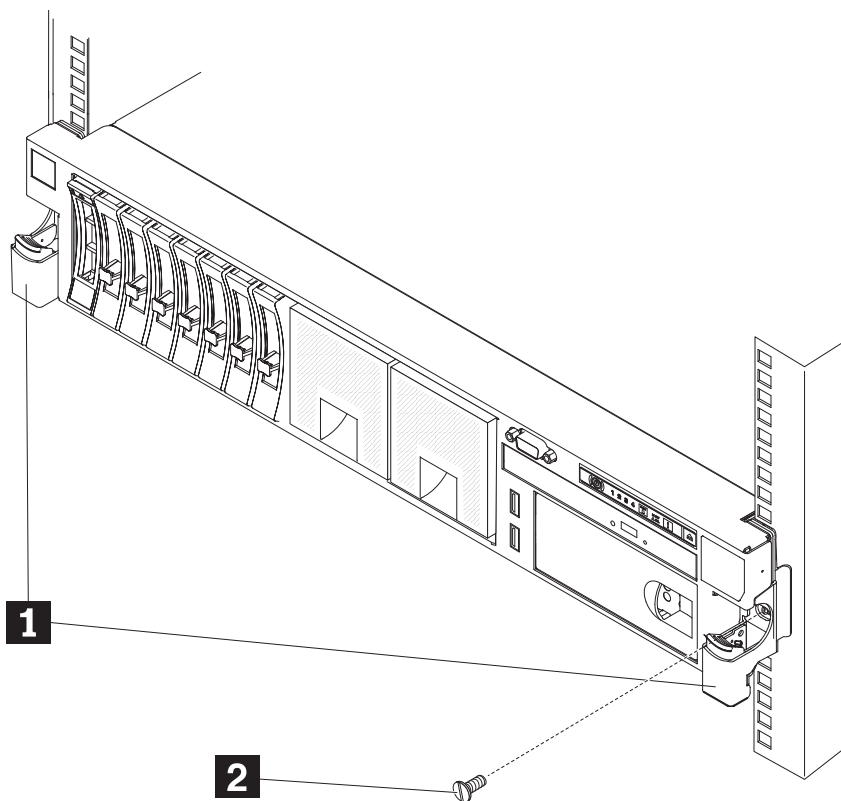

Figure 35. Installing the front screws
9. Optional: Install the front screws, as shown in Figure 35 on page 46.